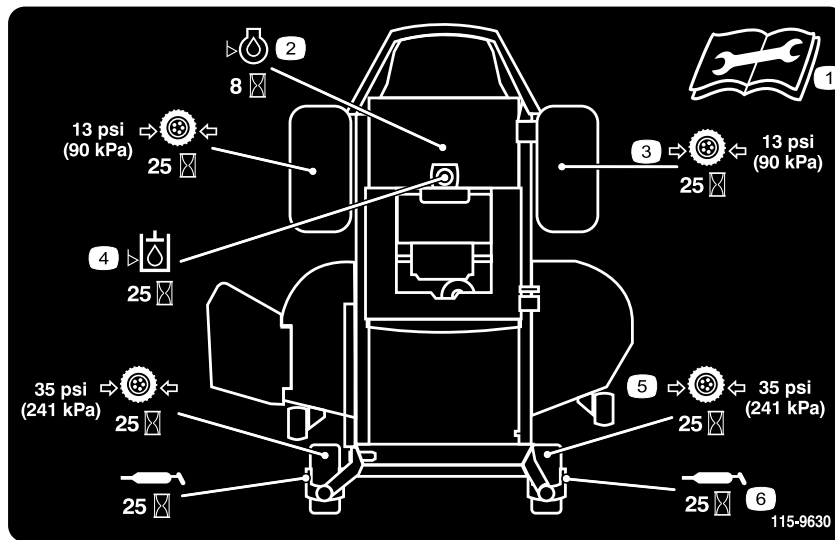
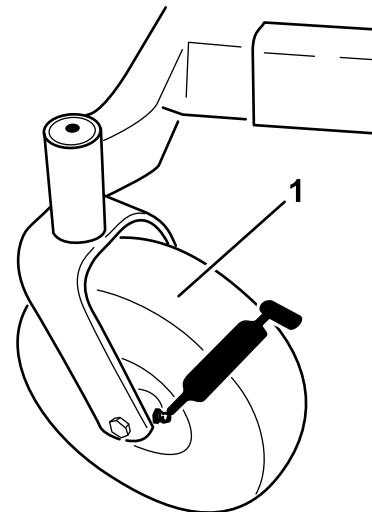

Figure 31
Figure 33
3. Clean the grease fittings (Figure 33 and Figure 31) with a rag. Make sure to scrape any paint off of the front of the fitting(s).
4. Connect a grease gun to each fitting (Figure 33 and Figure 31). Pump grease into the fittings until grease begins to ooze out of the bearings.